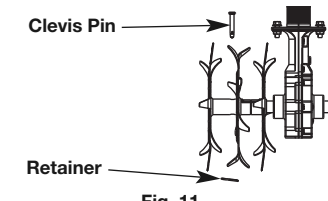

Fig. 11
2. Remove the retainer from the clevis pin that is between the 2 outer tines (Fig. 11).
3. Remove the clevis pin and slide the tines off of the shaft (Fig. 11).
6. Secure the new tines to the shaft by sliding the clevis pin into the holes between the 2 outer tines (Fig. 11).